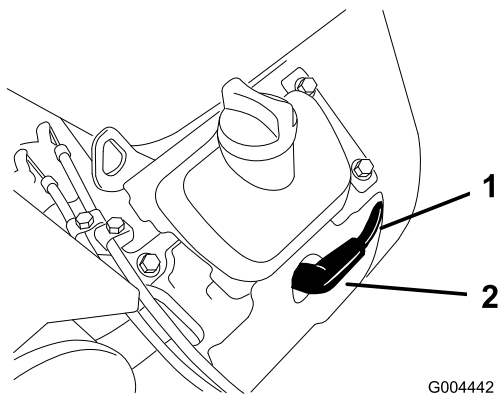

Figure 33
3. Pull the wire(s) off the spark plug(s) (Figure 33). Now clean around the spark plug(s) to prevent dirt from falling into the engine and potentially causing damage.
3. Push the wire(s) onto the spark plug(s) (Figure 33).